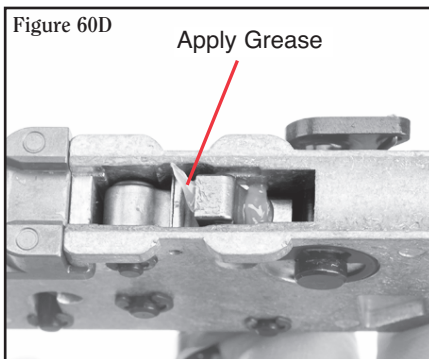

Figure 60D
6. Apply a small bead of grease to the opposite side of the sear as shown in Figure 60D.